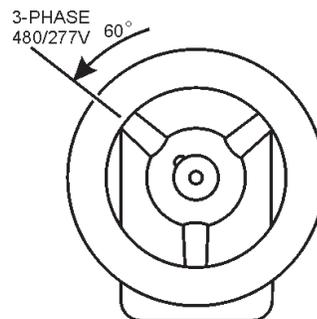

Figure 22. Voltage Selector Switch Wheel 3-Phase 480-277 Position
1. Place the voltage selector switch wheel in the 3Ø 480/277V position as shown in Figure 22.
1. Make sure the voltage selector switch wheel is in the 3Ø 480/277V position as shown in Figure 22.